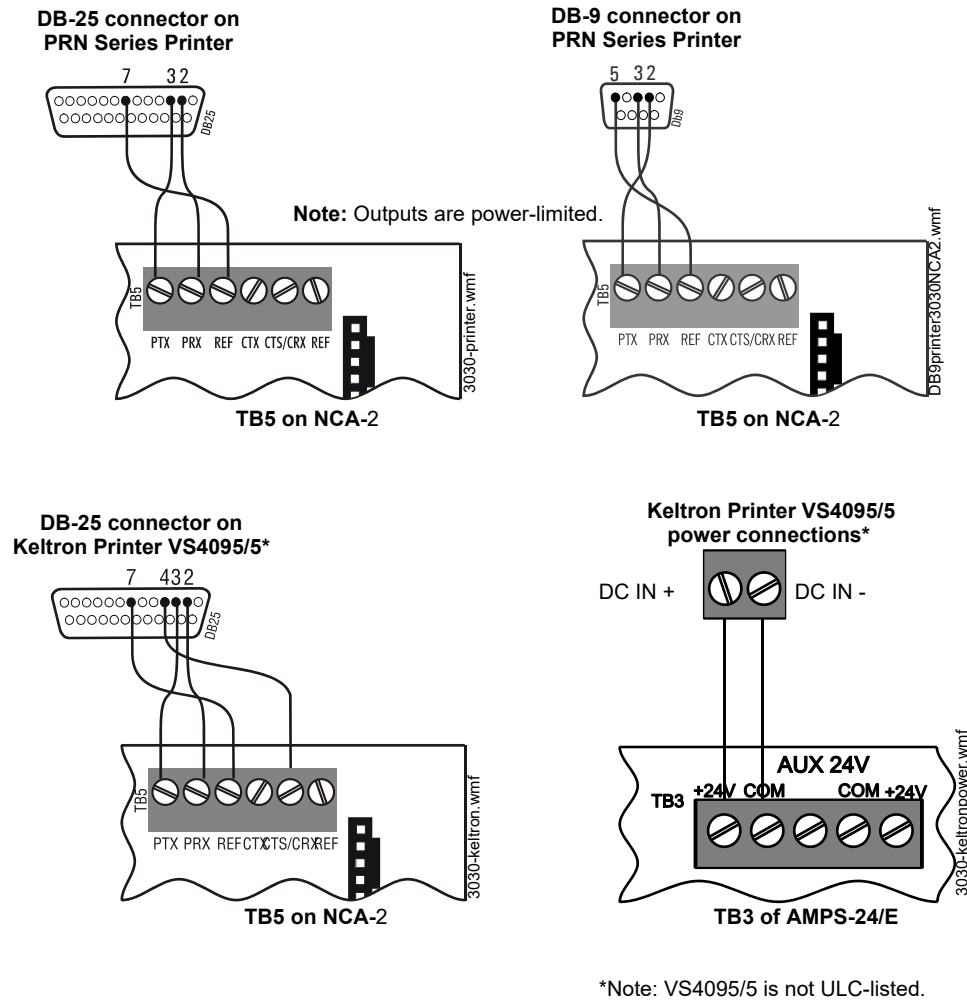

Figure 3.15 Printer Connections
1. Fabricate a custom cable to connect a printer to the system. Length of the cable will vary with each installation, but should not exceed a maximum length of 50 feet (15.24 meters). Printer must be installed in the same room within 20 feet (6.10 meters) of the panel. Using overall foil/braided-shield twisted-pair cable, properly connect one end to the DB-25 or DB-9 Connector (provided) using the wiring specifications shown in Figure 3.15.
2. Tighten clamp on connector to secure cable. Connect the four open leads of the custom cable to the TB5 terminal block on the CPU as shown in Figure 3.15.
- If installing a Keltron Printer VS4095/5, connect 24 VDC non-resettable power from a UL-listed power supply to the Keltron printer as shown in Figure 3.15 (14 AWG).